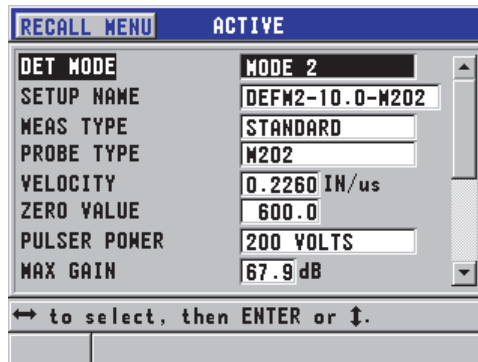

Figure 10-1 The **ACTIVE** screen for the setup of a single element transducer
5. In the **ACTIVE** screen (see Figure 10-1 on page 174):